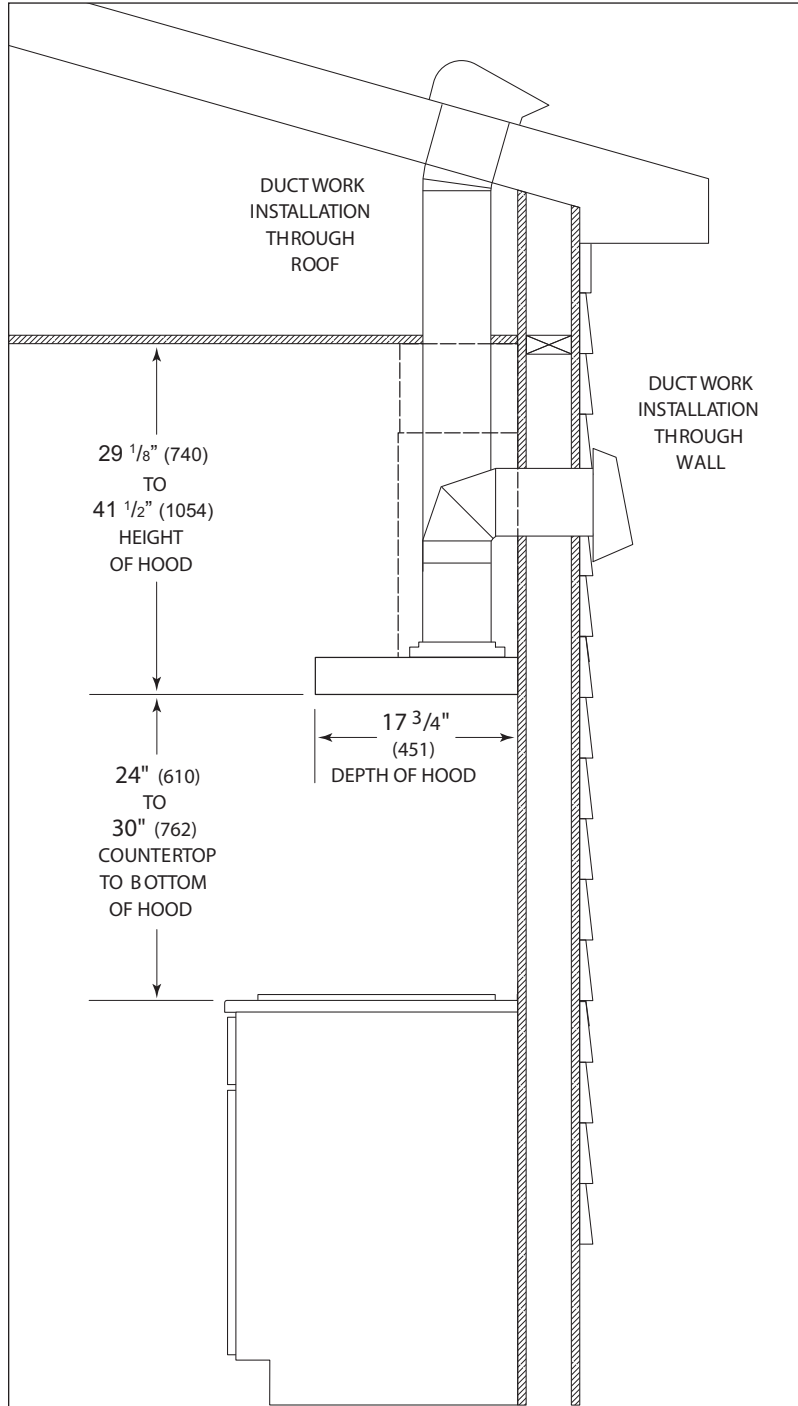

Figure 2-22 CTE Wall Hood Installation Considerations
2. Install ductwork as outlined on page 2-13 & Figure 2-22.